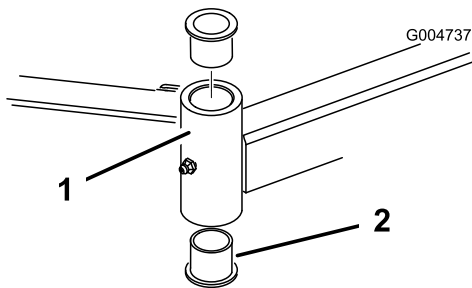

Figure 81
- Insert a pin punch into the top or bottom of the mounting tube and drive the bushing out of the tube (Figure 81).